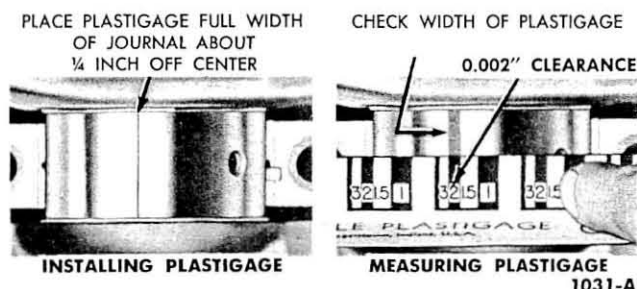

Fig. 34—Installing and Measuring Plastigage
2. Place a piece of Plastigage on the crankshaft journal the full width of the bearing cap and about $\frac{1}{4}$ inch off center (Fig. 34).
4. Remove the cap, then using the Plastigage scale (Fig. 34) check the width of the Plastigage at the widest point in order to get the minimum clearance. Check the Plastigage at the narrowest point in order to get the maximum clearance. The difference between the two readings is the taper. If the clearance is not within limits, select fit a new bearing.